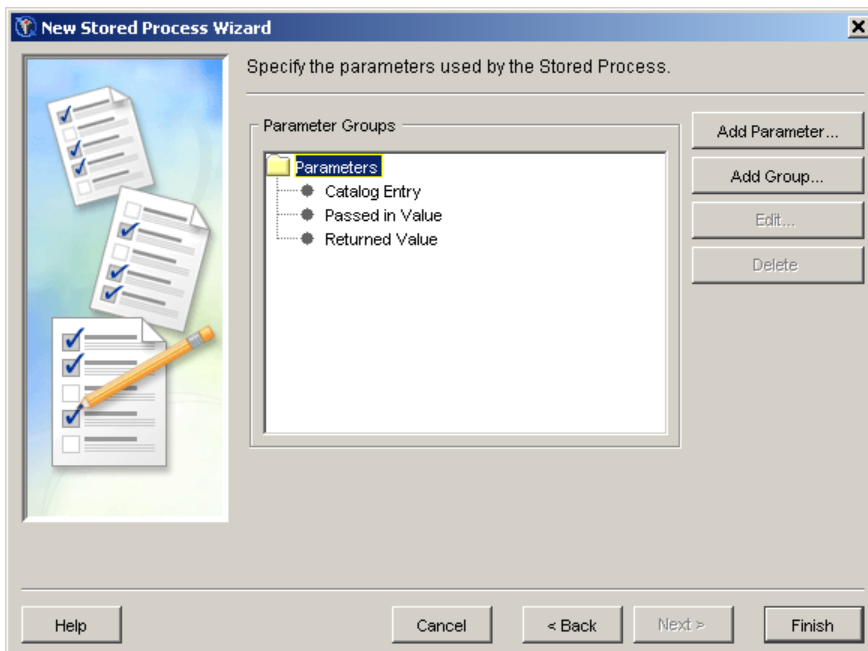

Figure 13. Parameter Screen
- g. You have now added all the necessary parameters. If a new Add Parameters screen appears, click CANCEL. You will be returned to the Parameter screen (Figure 13). Click FINISH to complete the registration process.